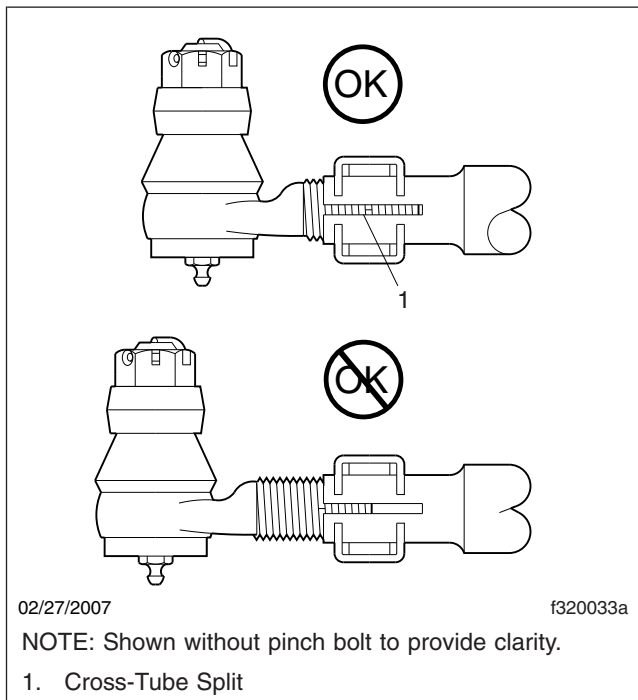

Fig. 3, Tie-Rod End Adjustment
2. The threaded portion of the tie-rod end assembly must be inserted all the way into the cross-tube split for adequate clamping. See Fig. 3. Replace the components if this cannot be done. For instructions, refer to **Group 33** of the *Western Star 47X and 49X Workshop Manual*.